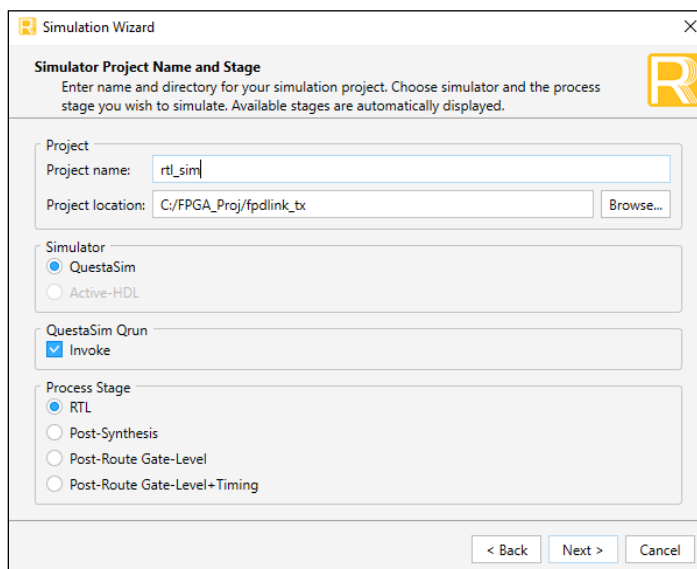

Figure 6.5. Simulation Wizard
1. Click the  button located on the **Toolbar** to initiate the **Simulation Wizard** shown in Figure 6.5.